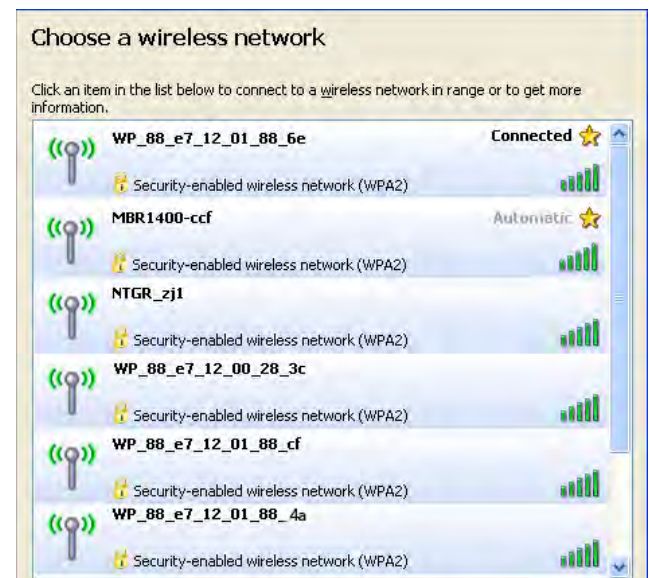

Figure 14 - Smart Appliance Connected
- The "Wireless Network Connection" screen should now show the Smart Appliance as "Connected." See Figure 14.